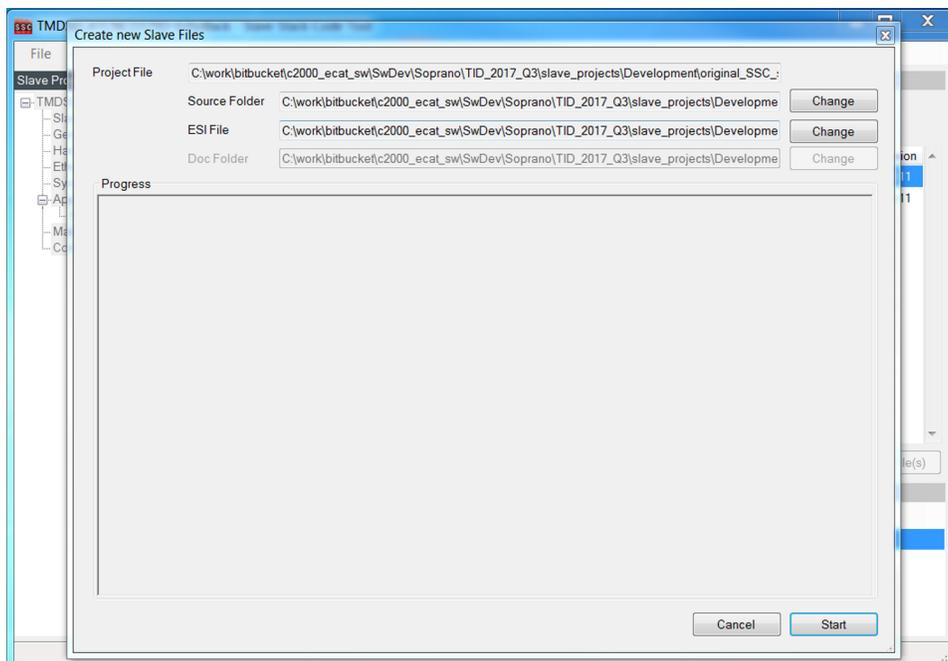

Figure 15. Project File Path Selection
8. Input the Source Folder and ESI File path, or check where it is being saved and click Start (see Figure 15).